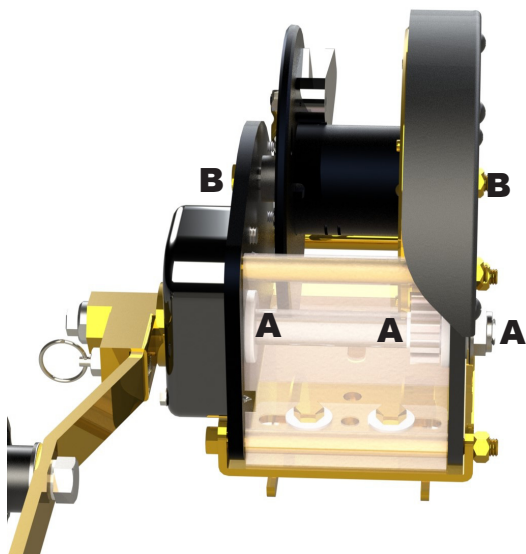

Figure 6a
- a. Pinion Shaft (3 locations) See Figure 6a.
- b. Drum Shaft (2 locations) See Figure 6a.